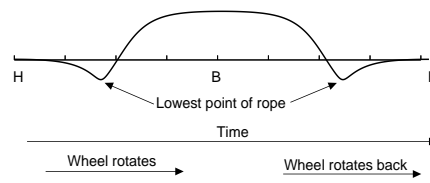
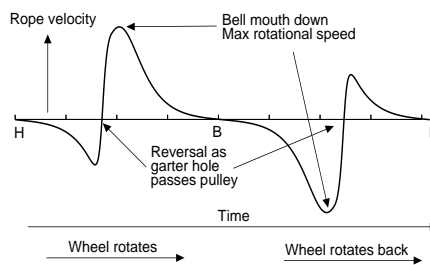
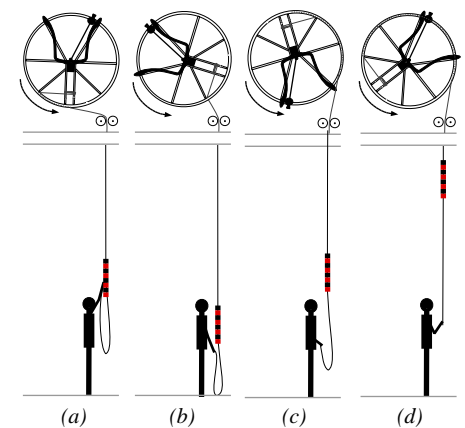

Figure 1: Position of the rope
Figure 2: Varying speed of the rope
Figure 3: Rope and wheel movement
To illustrate the point, *Tail End* drew a sketch to show how the rope speed varies. Subsequent calculation produced an even 'sharper' picture, with more rapid speed changes, but before looking at speed, let's get our bearings by looking at rope position. Figure 1 shows how the rope position varies as the wheel rotates from handstroke (H) to backstroke (B) and back to handstroke (H). The axis represents the height of the rope when the bell is on the balance at handstroke
Following the curve from the left, we see the rope coming down from the handstroke, then rising well past its initial position to the backstroke. It then returns to the handstroke, with its movement mirroring what it has just done. A whole pull takes about 4 seconds for a typical bell, so the intervals on the axis of Figures 1 and 2 are roughly half seconds.
Now let's look in detail at Figure 2, which shows the rope speed. Where the curve is above the axis, the rope is moving upwards, and where it is below, the rope is moving downwards. The rope is moving slowly where the curve is close to the axis, and more rapidly when it is further from the axis.
Starting again from the left, as the rope descends from handstroke, the downward speed increases. This increase is brought to a rapid halt when the garter hole passes the pulley (see Figure 3(b)). The rope can't go lower, and begins to rise as it starts to wind the other way round the wheel.
So far, so good, but look again at Figure 3(b) and you see the bell still has a long way to swing down from this point, so it is still accelerating – the rope changes direction, while the wheel is still increasing speed, which makes the transition vary rapid. In Figure 2, you can see that within about a quarter of a second of its fastest downward movement, the rope is moving twice as fast upwards. That is why, if you are unwise enough to hang on too long after the handstroke, the rope will give you a nasty jolt.
In the right hand half of Figure 2, as the rope returns from backstroke to handstroke, with the speed reversed. The rope accelerates down from the backstroke, before doing another sudden reversal and rising to the handstroke.
Figures 1 and 2 are shown above each other so you can correlate them. Notice that the two curves don't cross the axis at the same time. Figure 2 (speed) crosses the axis at the lowest and highest points of the curve in Figure 1. The rope speed is zero at the top and bottom of its travel, not where it passes its initial height.
Sensing the natural speed changes in the rope movement is not only important for good rope control, but essential if you are to feel through the rope, to what the bell is doing. A common problem is failing to let the bell rise fully at the top of the stroke. As you can see from Figure 1, the last little bit of the rise towards the balance is slow and protracted. Near the top, the bell feels light, and you need a delicate touch to detect when it actually gets to the top. If you are heavy handed, the force you put on the rope will stop the bell prematurely and make it drop.